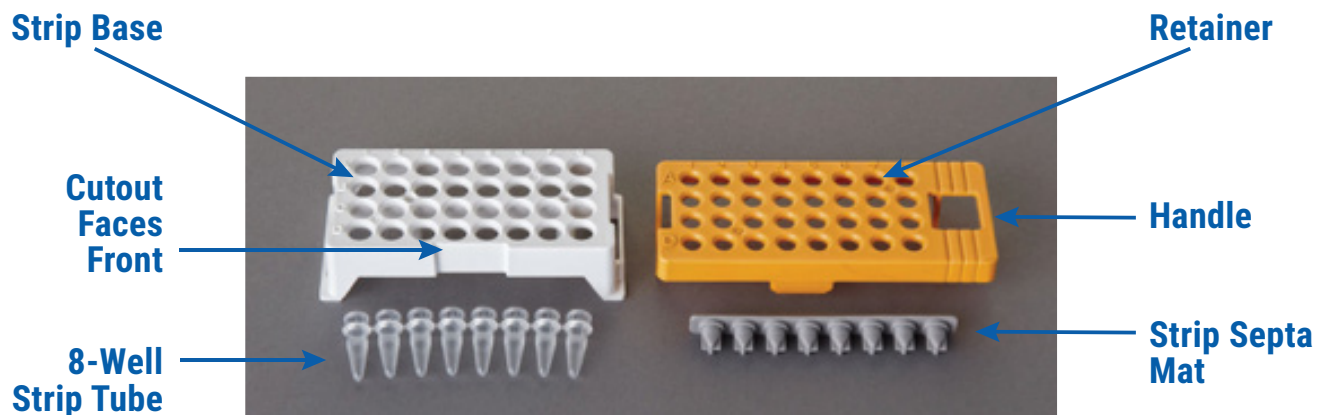

Figure 29. Assembling the Spectrum Compact Strip Base and Retainer.
- Place the 8-well strip tube into the strip base in Lane A with the samples in positions 1–4 (Figure 29).